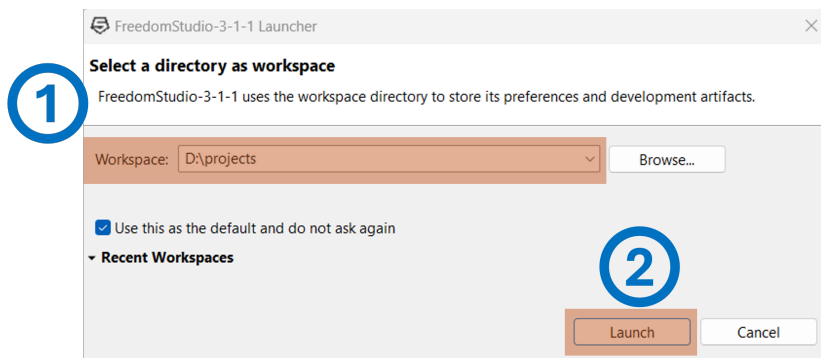

Figure 8: Workspace Creation
- Create and select a directory as workspace, then click on "Launch" button as shown in Figure 8: